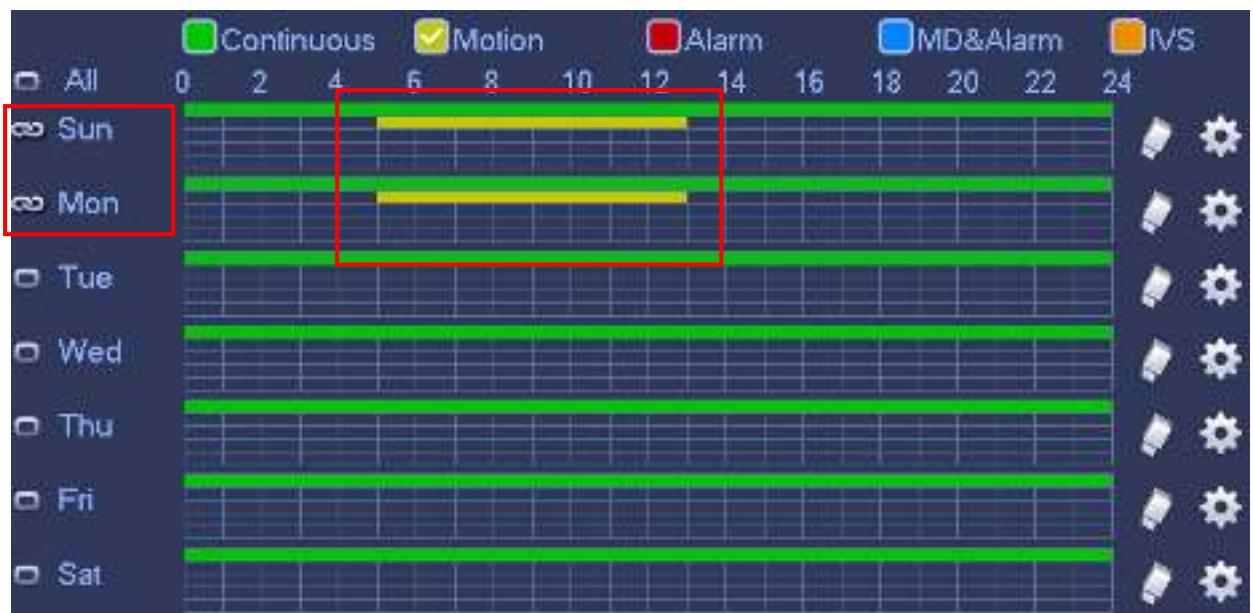

Figure 4-36
- c) Please draw manually to set record period. There are six periods in one day. See Figure 4-36.